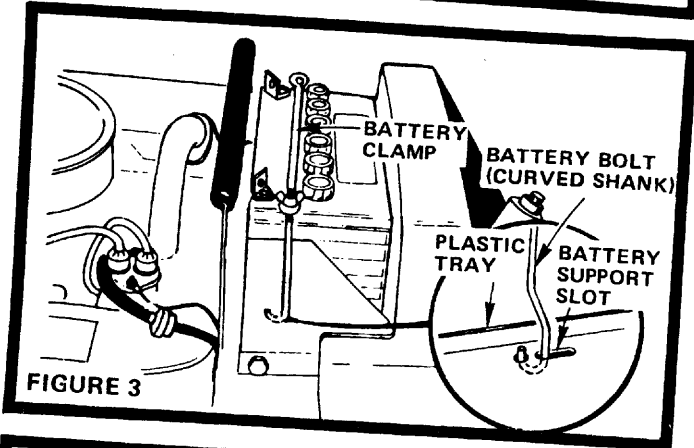

FIGURE 3
- c. Place Battery in Plastic Tray (Battery Terminals to front of Tractor) (Fig. 3).
- d. Hook the curved shank Battery Bolt into slot on the left side of Battery Support (Fig. 3). Fasten Battery Clamp to Battery Bolt with a Flat Washer and Wing Nut.